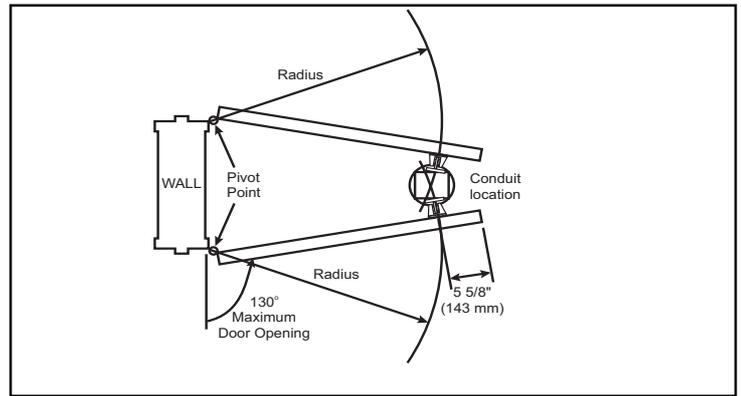

Figure 2. Double Door Conduit Location
3. **Double Door (Figure 2):** Using the radius calculated in step 1, draw an arc (using the pivot point of *each* door as the center point) through the desired location of the door opening. Locate the conduit where the two arcs intersect.